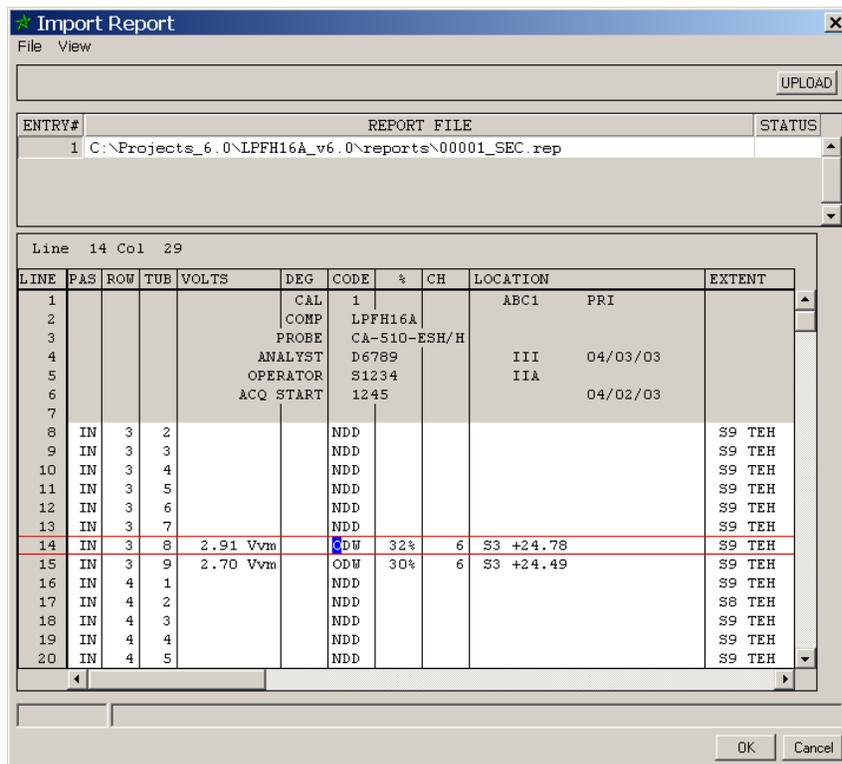

Figure 35. Database | Upload Reports | Import Report Dialog with a Report Opened & Report Line Selected
- **From Here Down:** Changes all instances of the **From** value starting at the selected line down to the bottom of the report. Lines from the selected line up to the beginning of the report are unchanged. The selected line in Figure 35 is line 14.
- **From Here Up:** Changes all instances of the **From** value starting at the selected line up to the beginning of the report. Lines from the selected line down to the end of the report are unchanged. The selected line in Figure 35 is line 14.